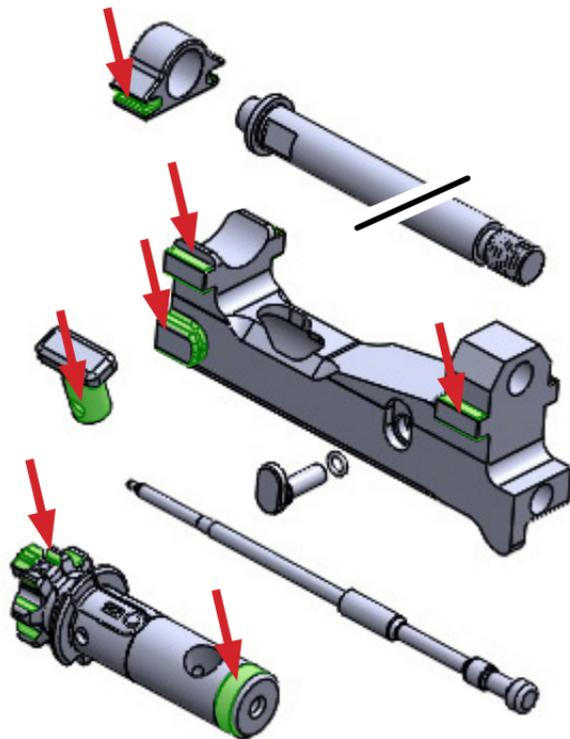

Fig. c-1
2. Apply CLP to the the bolt carrier group (bolt head and bolt lugs, extractor, bolt guide pin, bolt carrier, firing pin, firing pin lock), and allow it to soak for a minute or so. (Fig. c-1)
5. Re-apply CLP to the bolt carrier, bolt body, bolt guide pin, firing pin, and firing pin lock, extractor cutout, bottom bolt carrier guides, and spring guide. (Fig. c-1)